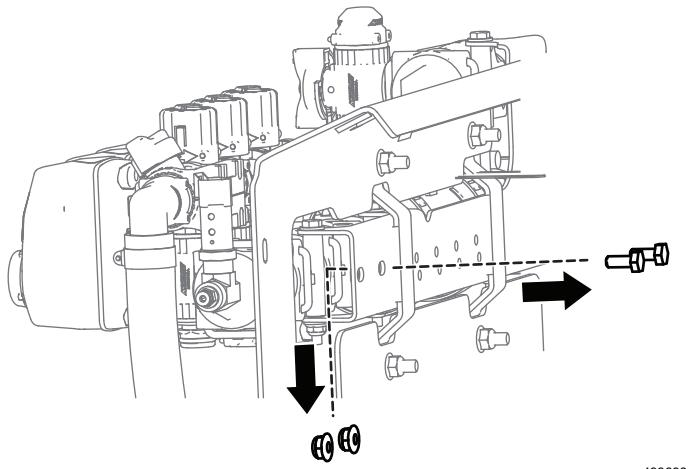

Figure 26
2. Remove the existing hardware as shown in Figure 26.